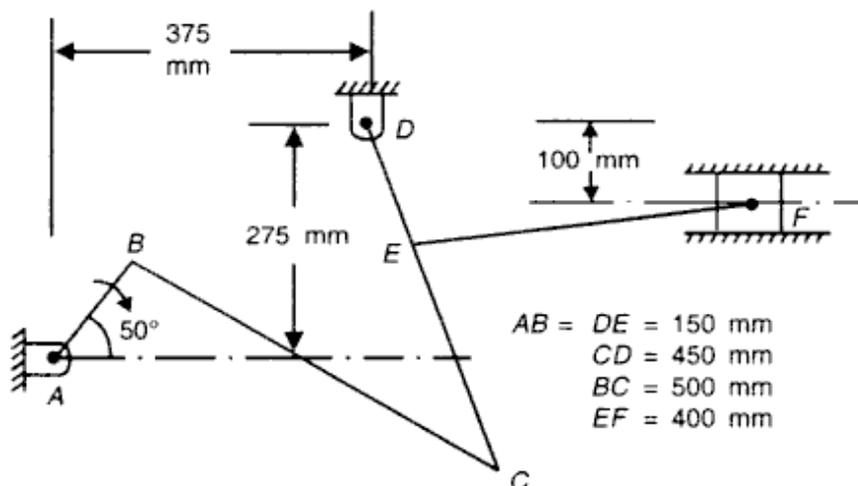

Figure Q1A
- 1A.** In the mechanism shown in figure Q1A, the crank AB rotates about point A at uniform speed of 240 rpm in clockwise direction. The link CD oscillates about the fixed point D, which is connected to link AB by a coupler link BC. The slider F moves in horizontal guides, being driven by the link EF. Determine: **(5)**